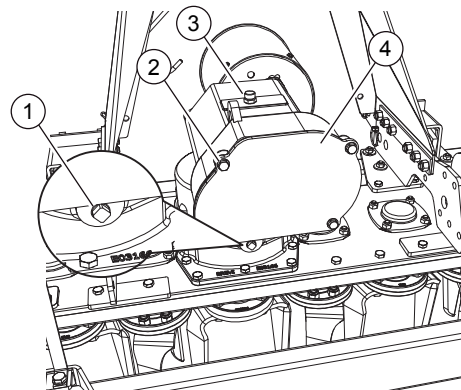

FIG. 36
- Loosen screws (2, "Fig. 36"). Remove the cap (4).
- Fit back the cap (4). Tighten bolts and nuts.
To check the oil level in the gearbox loosen the filler cap with dipstick (3, "Fig. 36"). Check the level with the dipstick. If necessary fill with oil up to the right level.